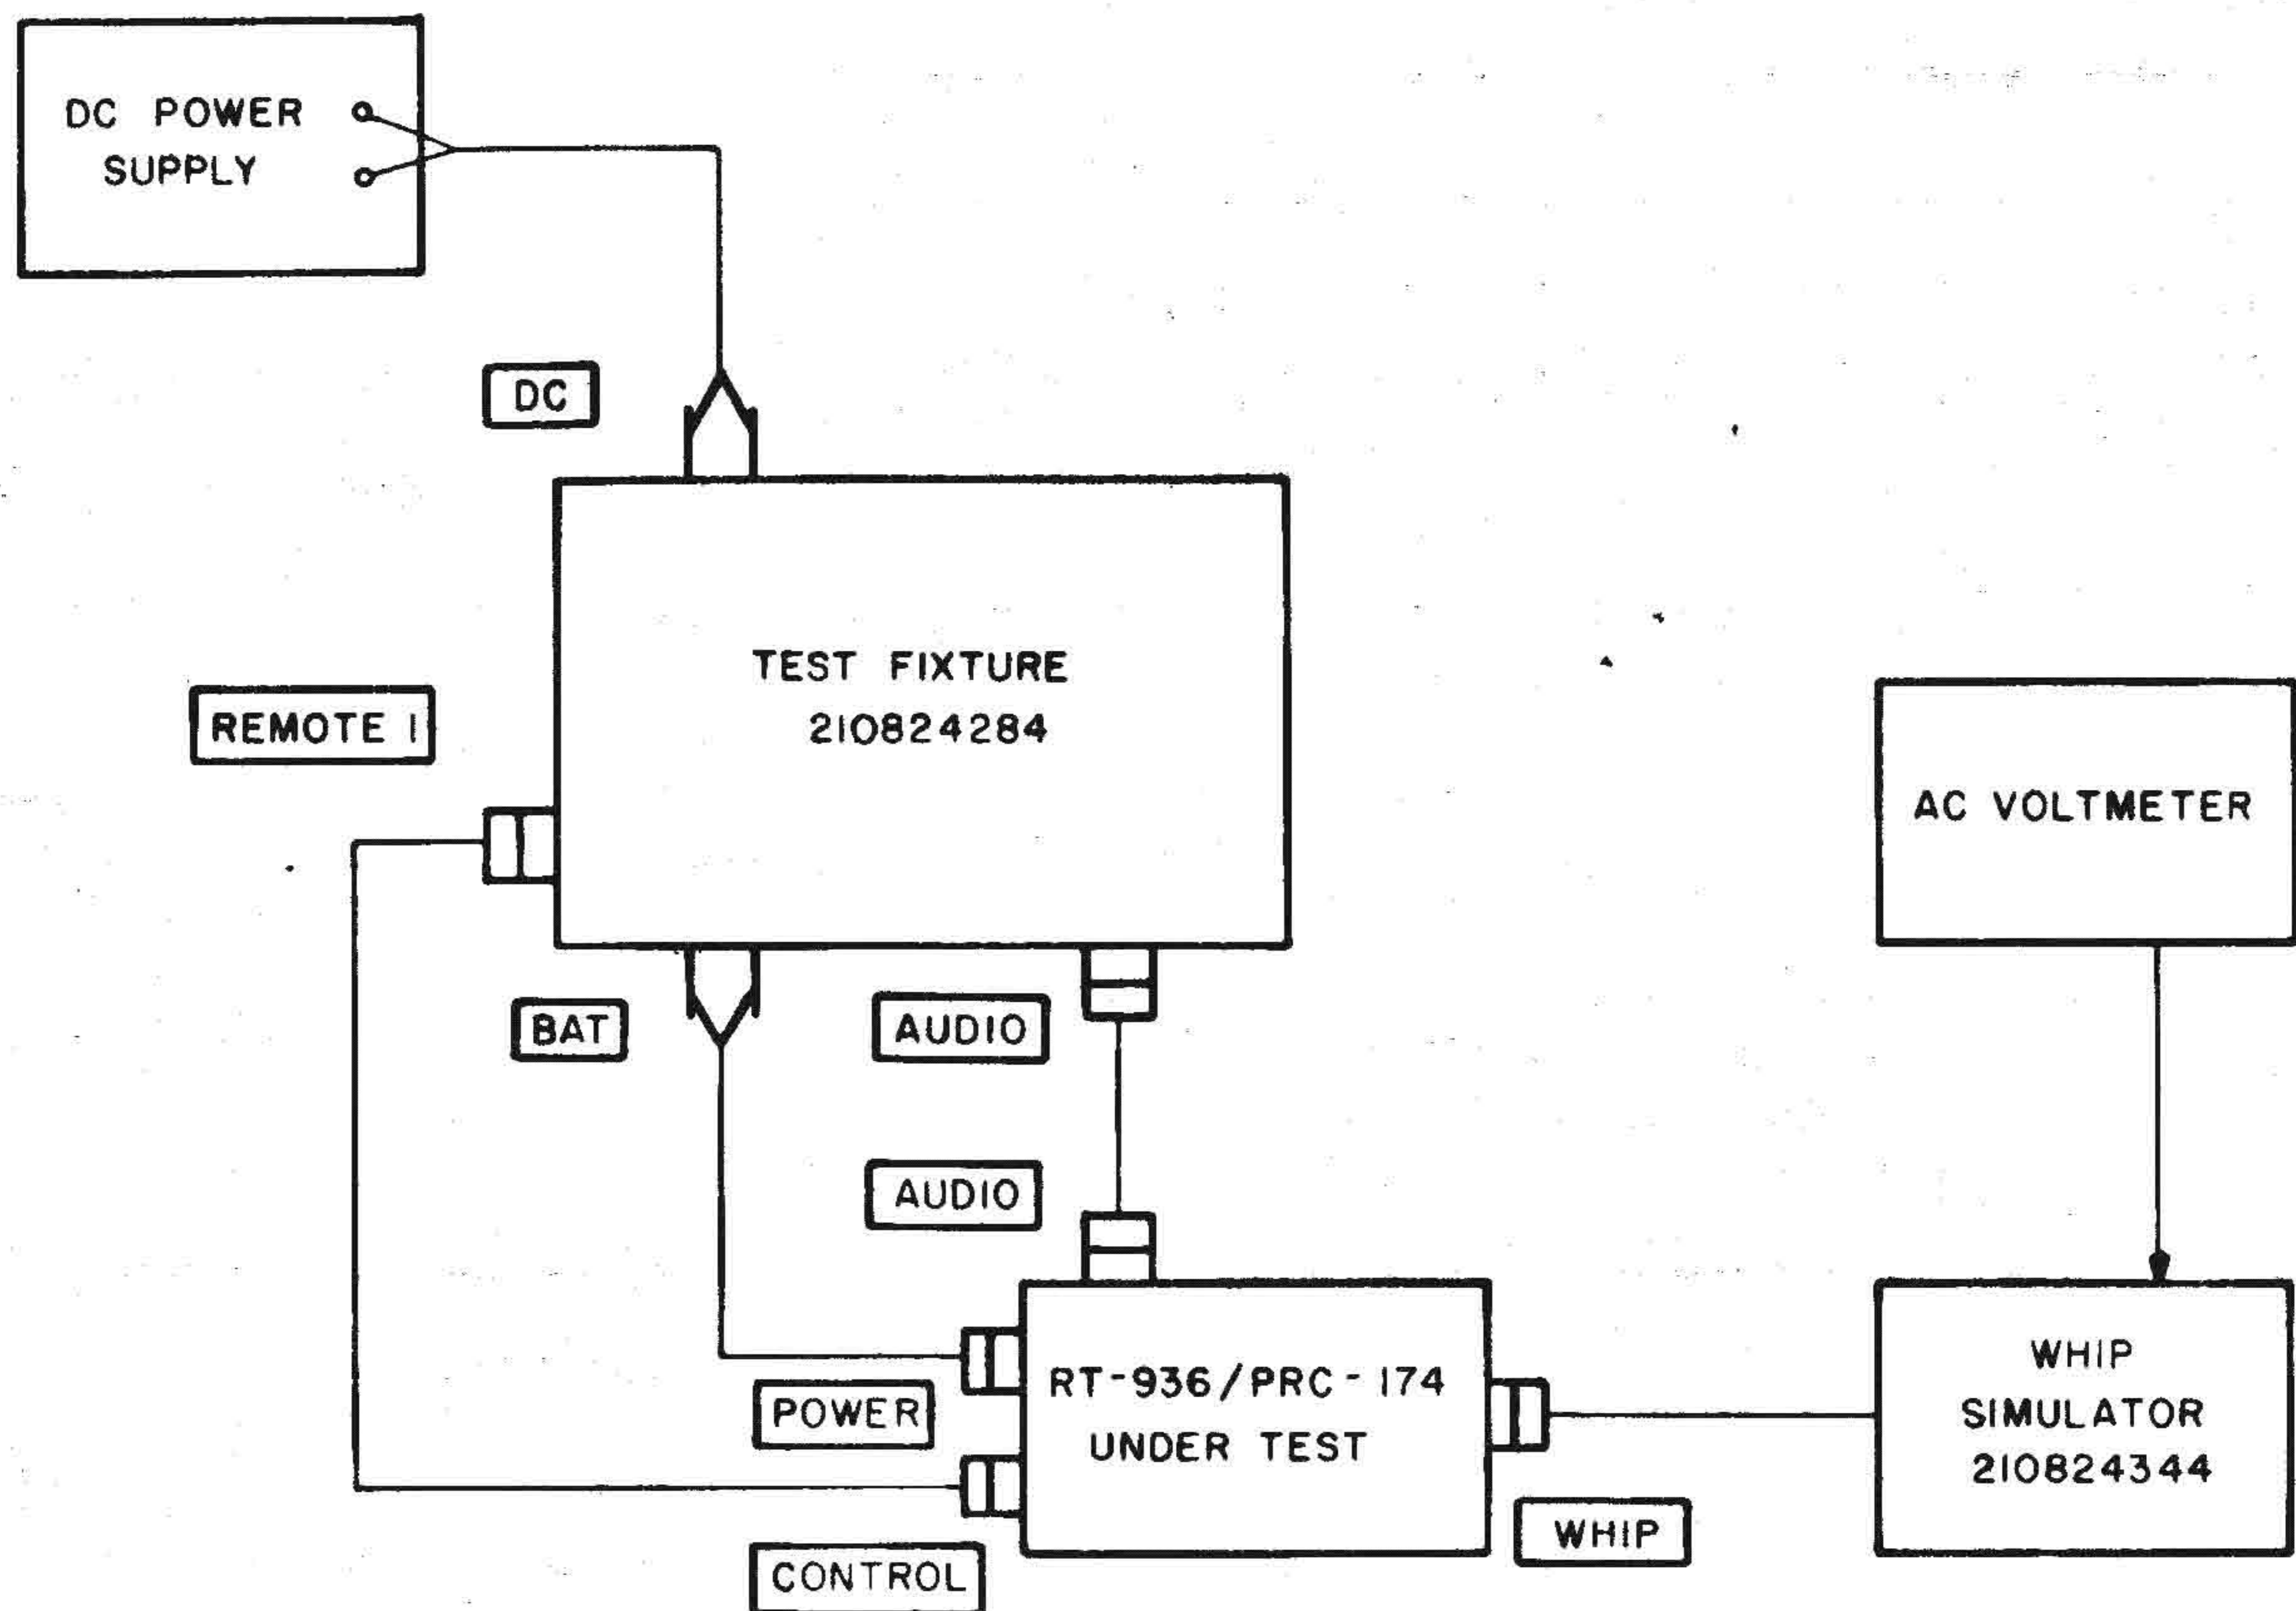

Fig. 4-6. Whip Antenna Output Power, Test Setup
| 3 | Whip Antenna Output Power | ON/OFF : ON MODE : WCW BAT : IND LOCAL/REM: REM R/T : R/T USB | (1) Assemble the test setup shown in fig. 4-6. (2) Set the PTT switch at T and observe the RF voltage indicated by the AC voltmeter. | N/A Min 13.9 V |